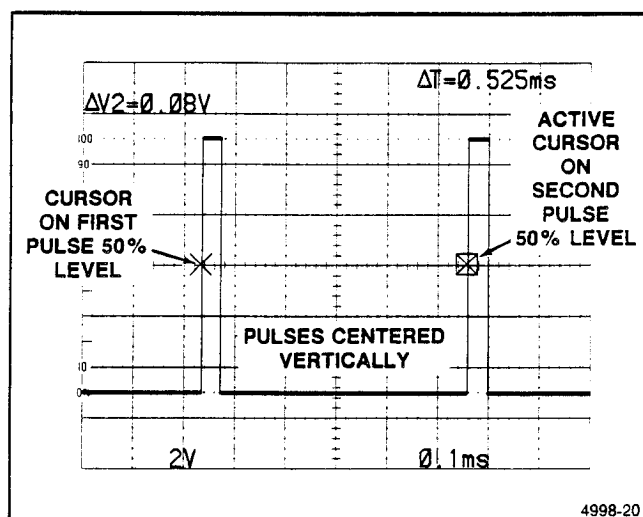

Figure 6-18. Time difference between repetitive pulses.
8. Push the SELECT C1/C2 button to select the other cursor and use the CURSORS control to move the active cursor to the 50% level on the leading edge of the second pulse (see Figure 6-18).